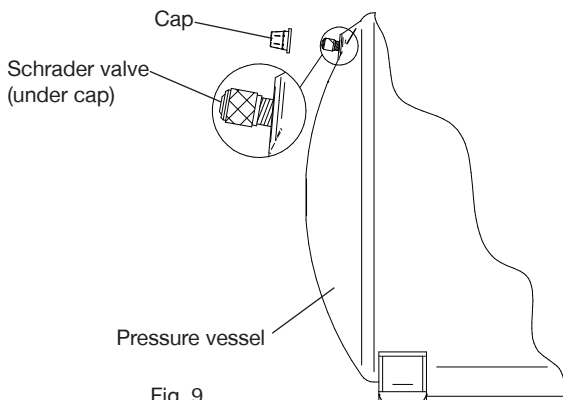

Fig. 9
- Check air charge at Schrader valve (Fig. 9) using a tyre pressure gauge.
- Replenish air charge by injecting air into the vessel via the Schrader valve using a car or bicycle pump (Fig. 9).